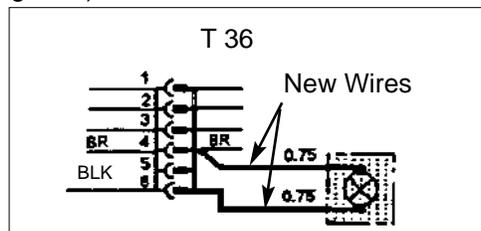

Figure 5
- Separate connector "T 36". Remove the brown cable from the connector half that has open number 5 and 6 pins (Figure 5).